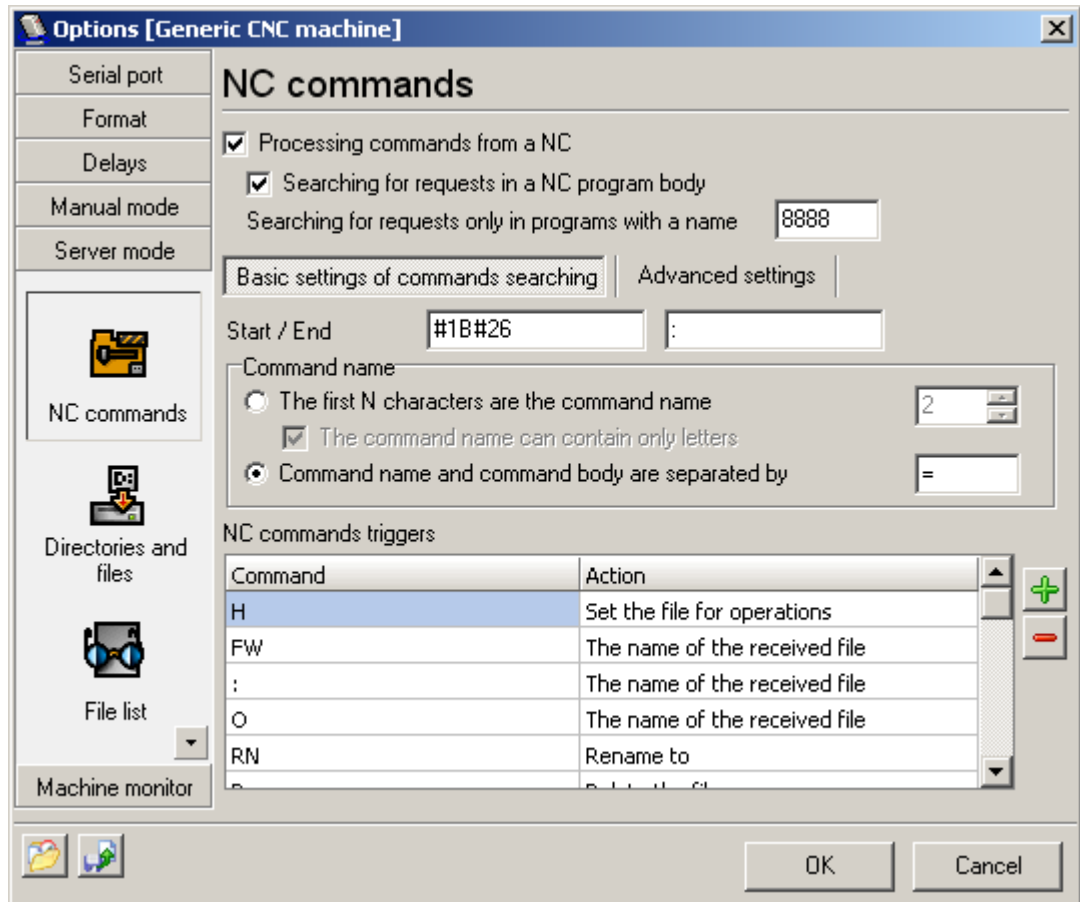

Fig.1 NC command format
The commands are extracted from the header according to the parameters specified in the "Server mode/NC commands format" tab (fig.1)
1. All commands sent to DNC must be transmitted in the NC program that has the name specified in the "**Search for requests only in the program named**" field (fig.1);